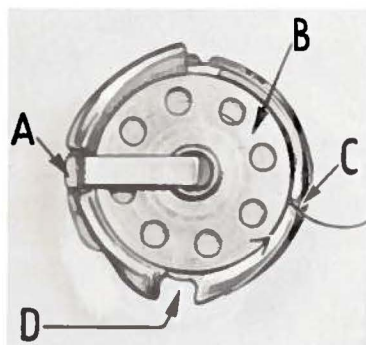
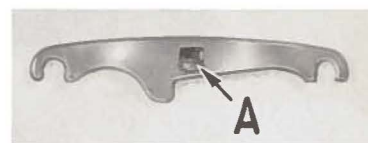

Fig. 2
Fig. 3
Turn handwheel until the needle carrier is at its highest point and the needle is farthest away from the bobbin case. Open bobbin case latch (A, Fig. 2) to discharge empty bobbin (B).
When inserting a full bobbin be sure thread unwinds from the under side of the bobbin, as is clearly indicated in Fig. 2. Hold the end of the thread in right hand and insert it in the slot (C, Fig. 2) on right side of the bobbin case. Leave the thread three or four inches long on the outside of the bobbin case. With a new operator, we suggest the needle thread be held and the handwheel turned by hand until the first stitch is completed, which will draw the end of bobbin thread underneath the tension spring.
Replace and tighten the two screws No. 1073 L. Be sure to see that the groove (D, Fig. 2) in the bobbin case fits over the projection or notch (A, Fig. 3) in the bobbin case retainer. This holds the bobbin in position.